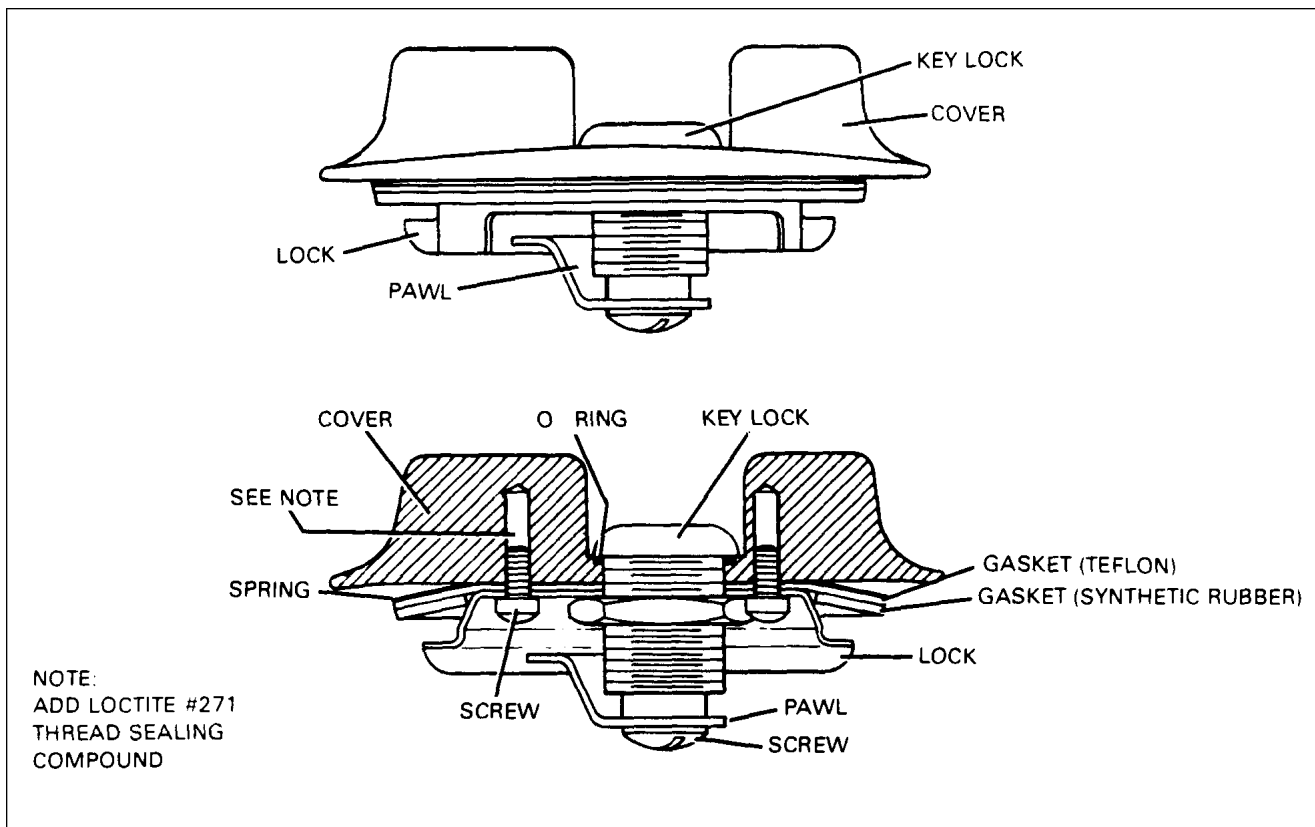

Figure 28-3. ArcherII Locking Gas Cap
a. Disassembly Of Locking Fuel Cap (Refer to Figure 28-3.)
- (1) Remove two screws on the back of fuel cap.
- (2) Remove screw holding pawl to the back of key lock assembly.
- (3) Remove pawl from the back of key lock assembly.
- (4) Remove nut holding key lock to cover.
- (5) Slide lock, gasket, and spring over the back of key lock.
- (6) Push key lock through cover and remove key lock.